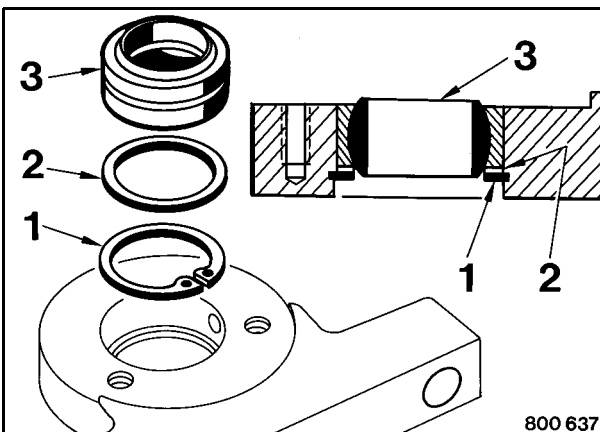

Fig. 15
22. Assemble circlips 1 (Fig. 15) and supporting discs (2) in both bearing blocks.